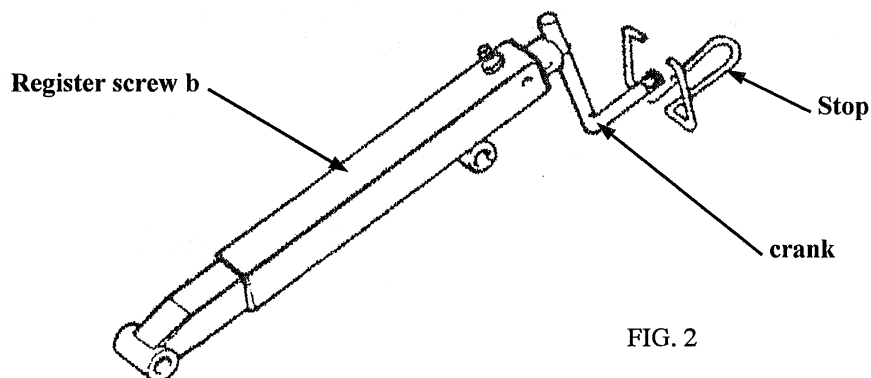

FIG. 2
After regulating the rear roller it is necessary to regulate the position of the level bar as follows (see fig. 2):
- Check gearbox oil level by unscrewing the filler plug, located on top of the box, and controlling that the metallic rod, with which the plug is provided, is wet of oil for a height no less than 15 mm (see fig. 2 and 3). If height is inferior to 15 mm, provide immediately to refill with new oil.